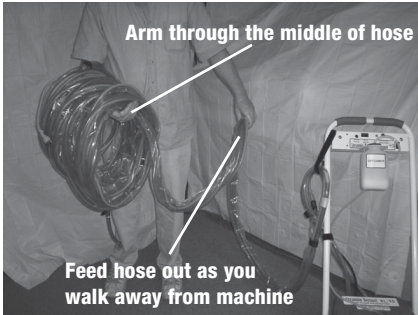

Figure 10: Unrolling hoses
D. Unrolling Hoses- Place one arm through the middle opening of the hoses (fig. 10) and feed the hose out as you walk away from the machine toward the sink.